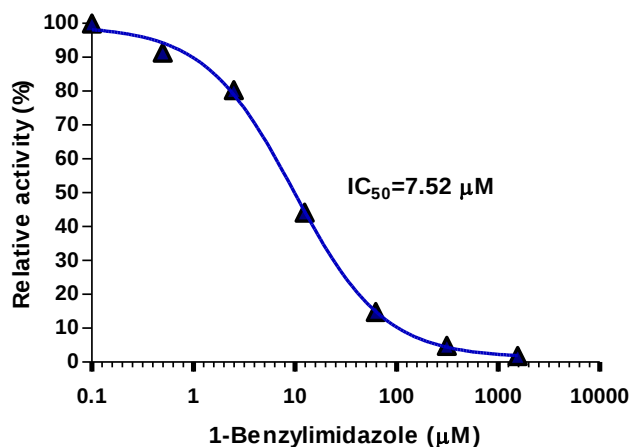

Figure 2. 1-Benzyl-Imidazole inhibition of Glutaminyl Cyclase activity measured with
3.6 An example of the inhibition of Glutaminyl Cyclase by 1-BenzylImidazole is shown in Figure 2.